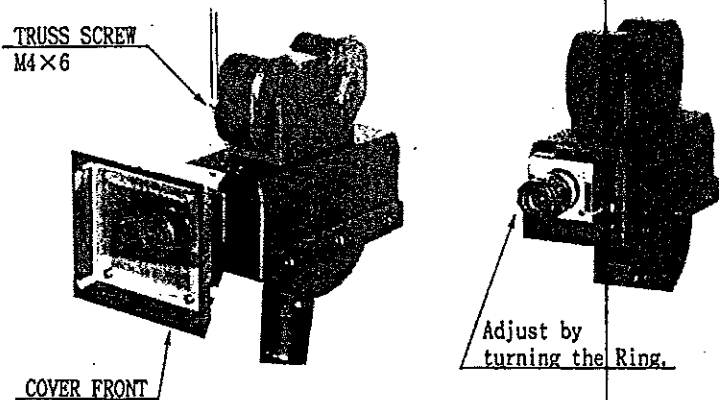

Fig. 16.1
- ③ Turn the CCD Camera's Lens Ring to allow aperture and focus to be adjusted (Fig. 16.1)